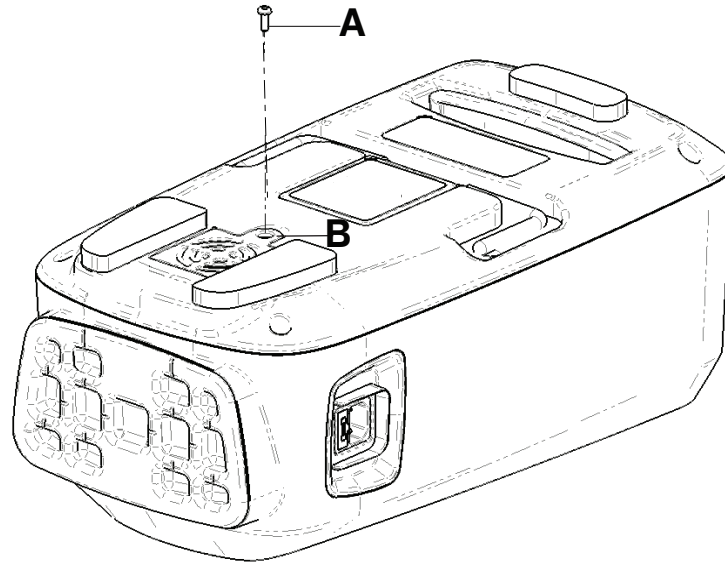

Figure 6 – Back cover
4. Using a T20 Torx driver, remove the screw (A) that secures the air filter access door (B) to the back cover (Figure 6). Discard the screw.